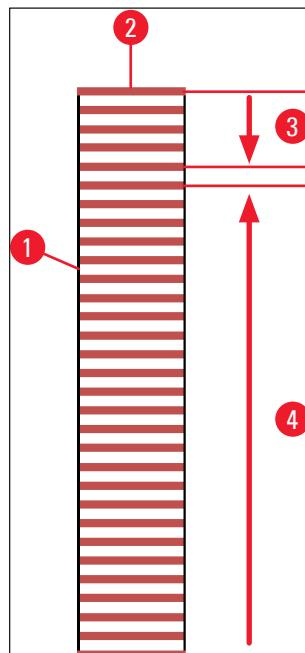

Fig. 75
In order to prevent slides from drying out during processing, the first 5 slides are always coverslipped first. Then the rack moves upwards and continues coverslipping with the last slide in the rack (→ Fig. 75).
- The schematic display (→ Fig. 75) of a rack (→ Fig. 75-1) with used slides (→ Fig. 75-2) shows the sequence during processing.